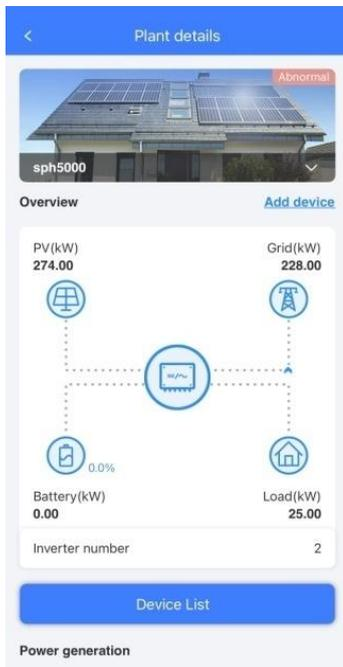

Figure4-2 Plant details interface
Step 3 Click the plant to enter the "Plant details" interface, as shown in Figure4-2.